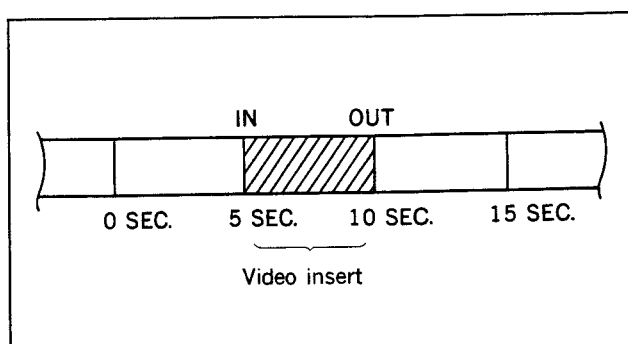

Fig. 6-9-12 Video insert for RV702 and RV703 adjustments confirmation
13. Thread a commercially available tape type P6-120HMP. Put the unit into REC mode about 15 seconds. (See Fig. 6-9-12)
15. Press the PLAY button from the 0 second point, and press the PLAY and EDIT buttons simultaneously to enter the video insert mode at 5 seconds point without supplying video signal. Press the CUT OUT button to stop the insert mode at 10 seconds point. Put the unit into REV search mode, and rewind the tape to the 0 second point. (See Fig. 6-9-12.)
16. Perform the step 15 operation 5 times. (Repeat the video insert operation at the same position of the tape.) (See Fig. 6-9-12.)
18. Confirm the CH1 wave form (PCM RF) of the oscilloscope. The RF level between 5 sec. thru. 10 sec. portion of the tape is more than 50% against the level between 0 sec. thru. 5 sec. portion of the tape. (See Fig. 6-9-12.)